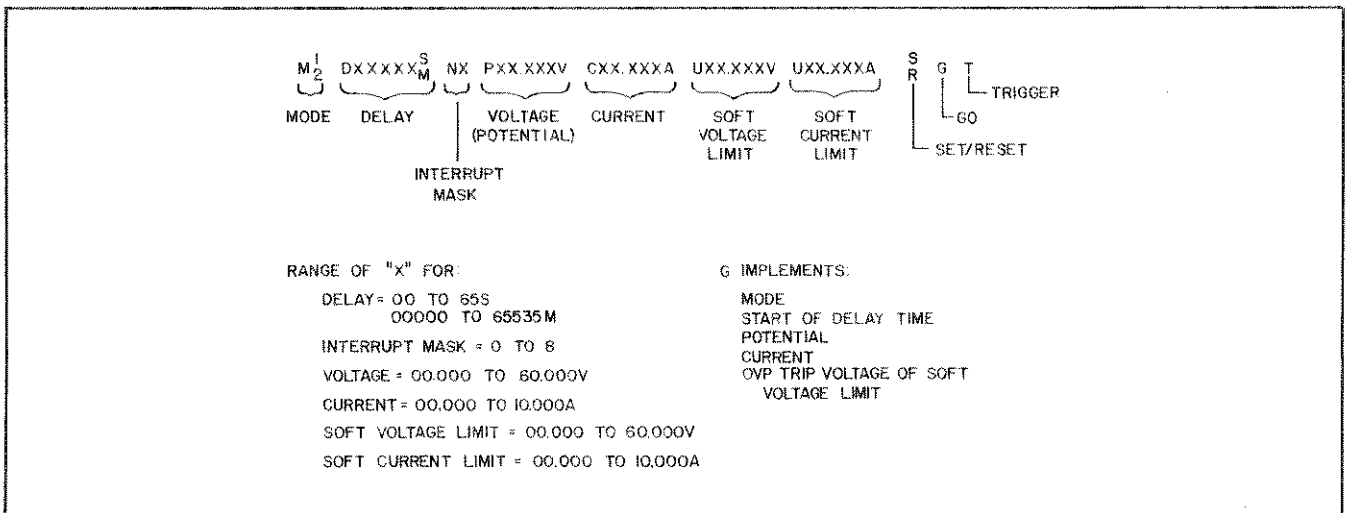

Figure 3-13. Programming Syntax
3-104 Figure 3-13 shows a full programming string for the 6034A power supply. Paragraphs 3-106 through 3-131 describe each of the commands in the programming string. The letters used to program each of the commands are printed in boldface type in the following paragraphs. When referring to Figure 3-13, it should be remembered that:
6. Numbers that are not within the ranges listed in Figure 3-13 will invalidate the command.